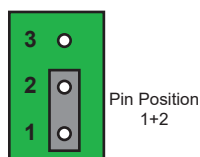

Figure 3 J3 — Default Position
- **Pin 1** (bottom) + **Pin 2** (center) — In this position, the reference is terminated with a 75ohm resistor. This configuration is to be used for point-to-point cabling, or on the last card of a daisy chain topology. This is the default position. Refer to **Figure 3** for pin positions.